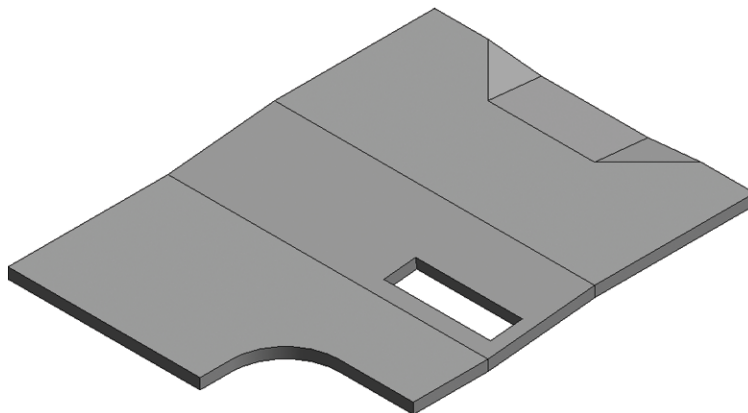

FIGURE 3.12 The finished opening
4. Click Finish Edit Mode to complete the sketch. The result resembles Figure 3.12.